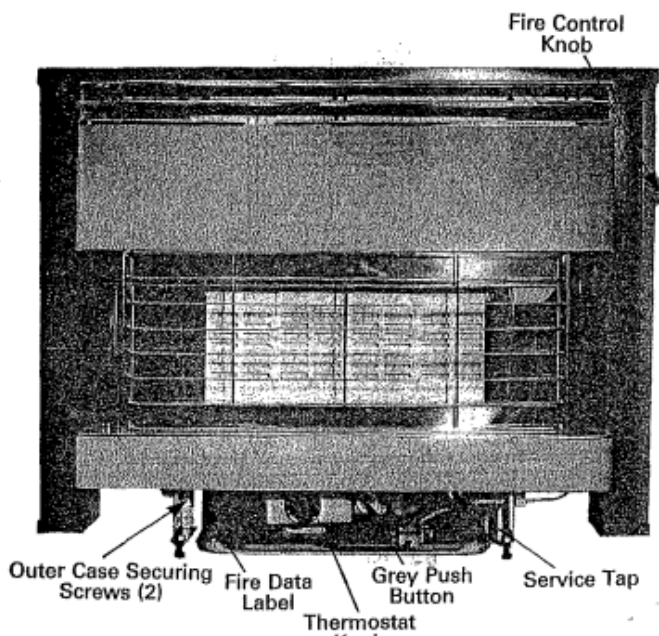

Fig. 9. Outer Case
2. Turn the service tap (at present supplying gas to the boiler only) 1/4 turn anti-clockwise. The service tap is now supplying both the boiler and the fire. (Fig. 9).
2. Turn the service tap off by turning anti-clockwise (Fig. 9).
- ii) Remove the two outer case securing screws (Fig. 9).